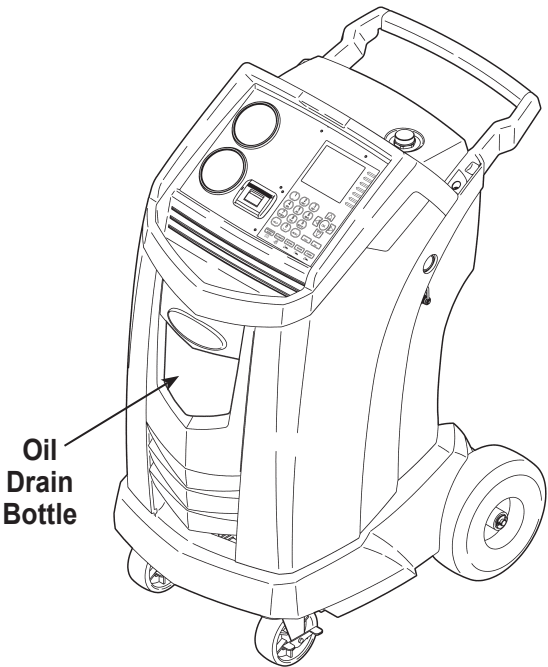

Figure 1
1. Hold the oil drain bottle straight and insert the connector into the hole behind the shroud until it snaps into place. See Figure 1.